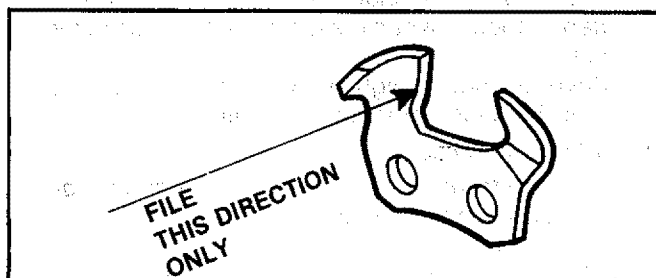

Figure 23
6. File from inside toward outside of cutter in one direction only — 2 or 3 strokes per side plate edge should be enough. Figure 23.